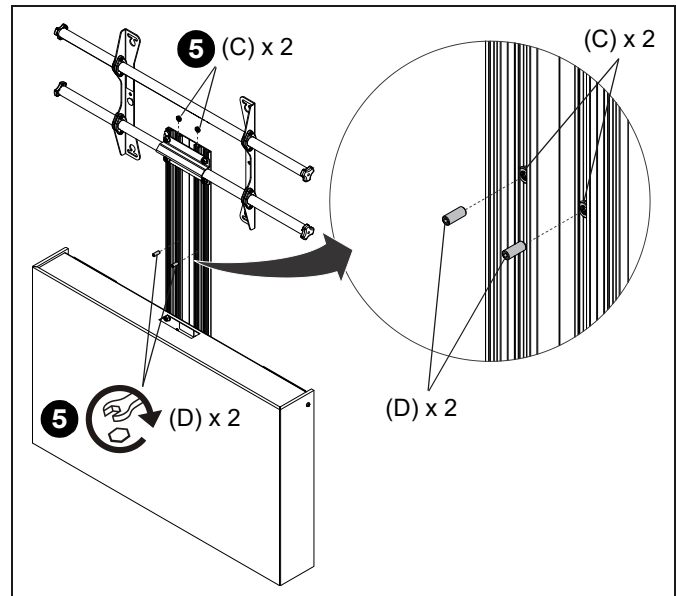

Figure 23
4. Slide two M8 nuts (C) into the inside channels shown and hold them in place below the bottom edge of the display.
5. Install two M8 x 12mm screws (D) through the M8 nuts (C). Tighten the screws to hold the nuts in place (See Figure 23)